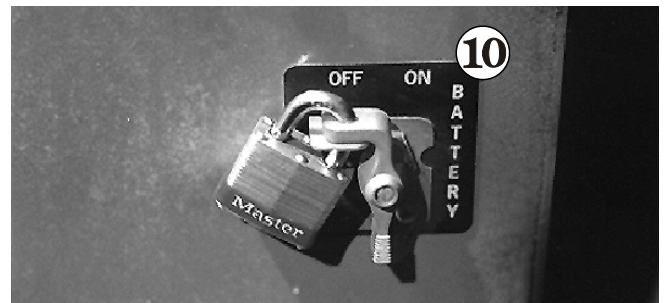

Figure 10.3
2. Turn the **Battery** switch 10 OFF and padlock it (see Figure 10.3).